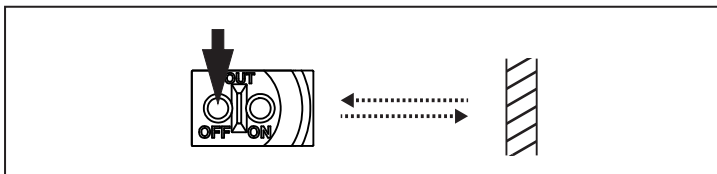

Fig. 2: Button [OUT OFF]
- ▶ Remove the object (see fig. 2) and press [OUT ON].